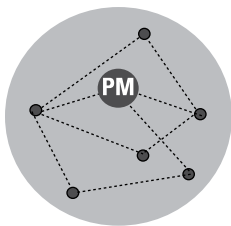

Figure 9-4: The network.
- ❑ **The network:** where project staff can communicate freely with each other, no matter what team they are in, and the Project Manager and Team Leaders will never even know about some of the discussions. This works well with experienced teams . . . and very secure Project Managers and Team Leaders. Figure 9-4 shows the structure of a network.